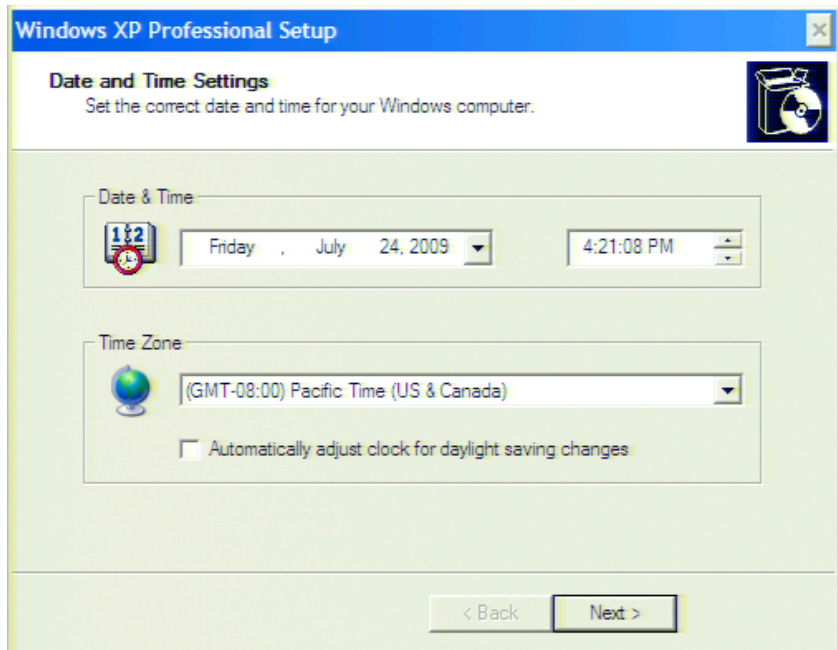

Figure 11 Date and Time Setting dialog box
Step 6. In the next dialog box, set the date and time for your Windows. Then, click the **Next>** button (Figure 11).